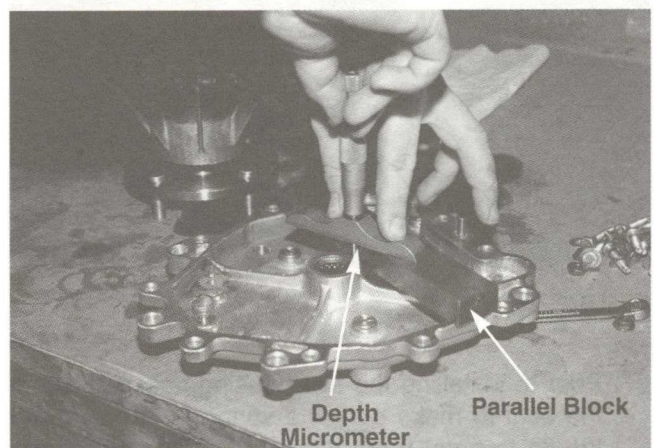

FIGURE 24.
24. Prior to assembling the two housings together, make sure that there is proper clearance between the gear and inner housing by measuring the distance from the mating surface of the housing to the boss on the center of the housing. See figure 24.